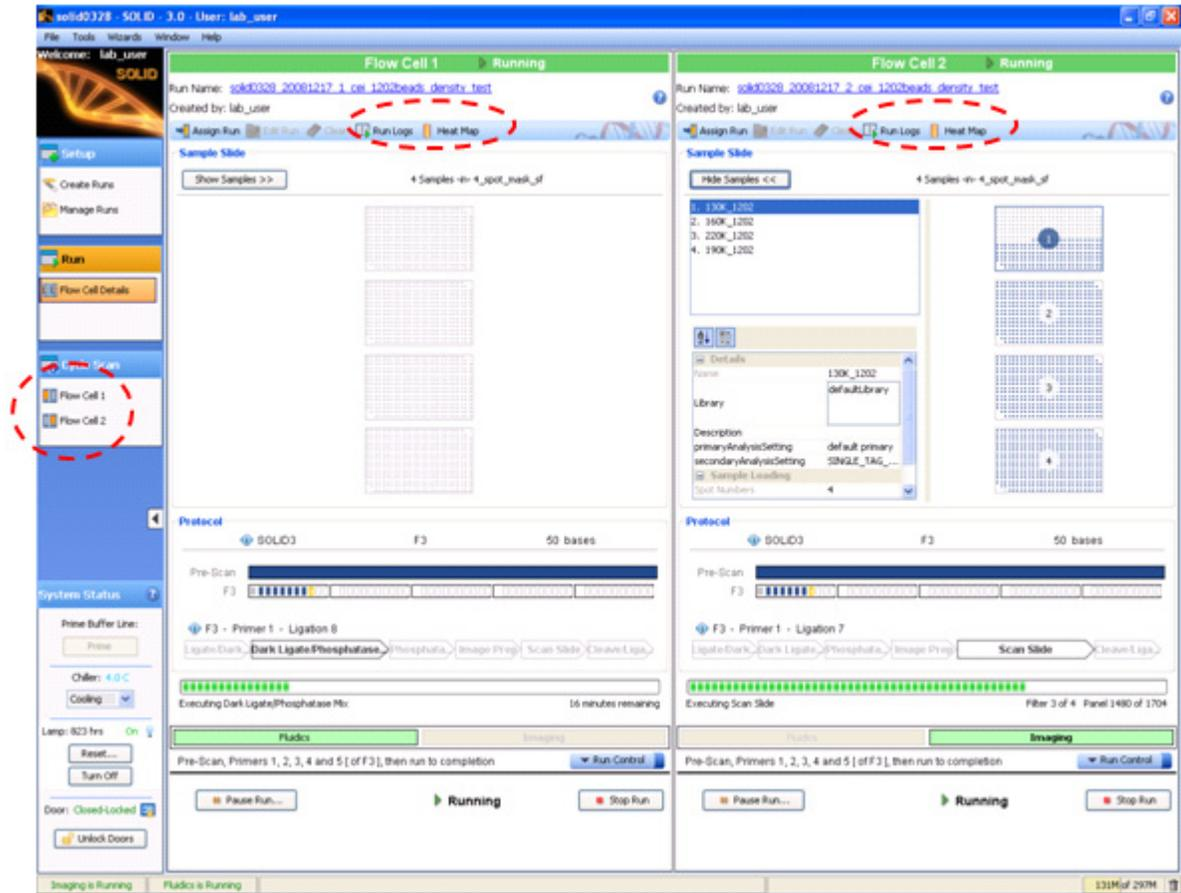

Figure 56 How to learn more about the current run.
- After the run has been initiated, you can click the **Run Log** and **Heat Map** buttons located at the top of the appropriate flowcell panel to learn more information about the current run Figure 56. You can also use select the appropriate flowcell in the Cycle Scans menu on the task bar on the left